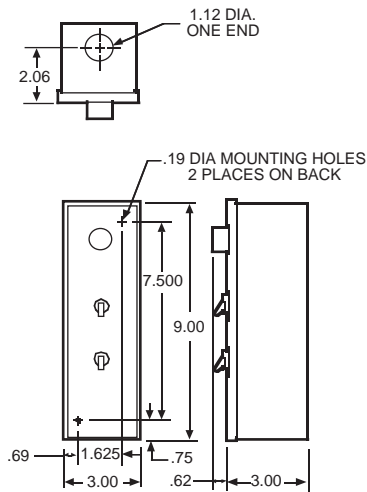
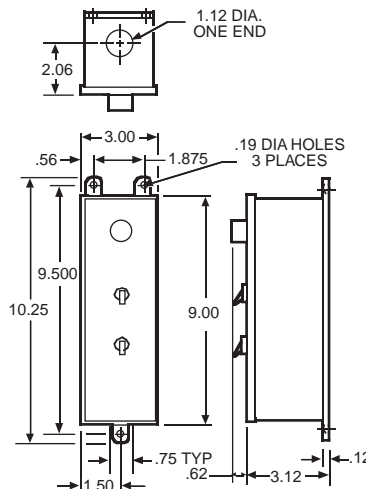
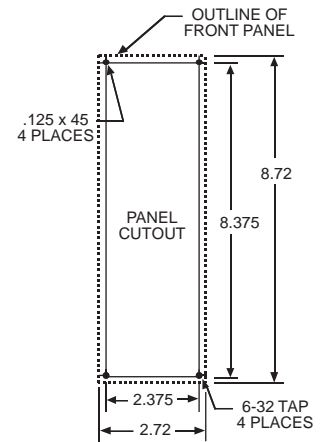

FIGURE 3. Model 2130 NEMA 1 Dimensions
FIGURE 4. Model 2130 NEMA 12 Dimensions
FIGURE 5. Model 2130 Panel Mounting Cut-Out Dimensions
- Enclosed Models** — These units are furnished in a compact, die cast aluminum, nonventilated enclosure. NEMA 1 and NEMA 12 models are offered. See Figure 3 for NEMA 1 and Figure 4 for NEMA 12 model dimensions. The complete control assembly is mounted on the front panel which can be removed from the enclosure by removing screws. The unenclosed panel assembly can be mounted through a cut-out in the user's enclosure, see Figure 5 for cut-out dimensions.